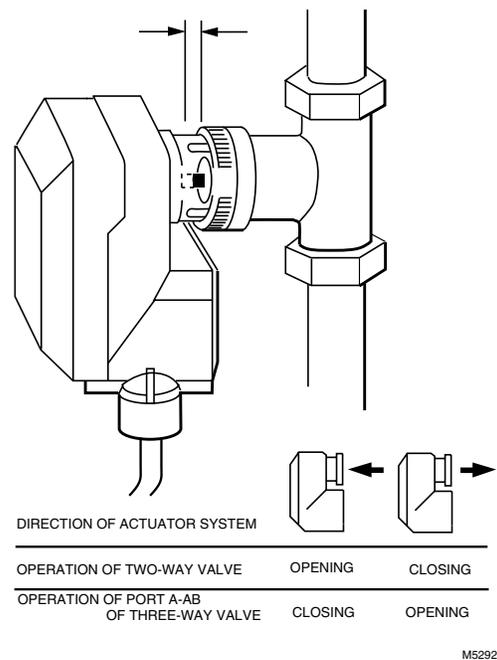

Fig. 15. Direction of M6410A/7410F Small IRC Electric Linear Valve Actuator stem during operation.
- ❶ Change the room temperature setpoint by at least 10°F (6°C).
- ❷ Make sure the actuator either opens or closes the valve, depending on the direction of the temperature change. See Fig. 15.
- ❸ If the actuator stem moves in the wrong direction, reverse the connections for the blue and white actuator wires.
- ❹ If step ❸ does not resolve the problem, replace the actuator.
- ❶ Change the Y input signal. The movement of the actuator stem (Fig. 15) indicates if the valve is opening or closing.
- ❷ If the direction of the valve stem travel is not correct, reset the direct/reverse switch.